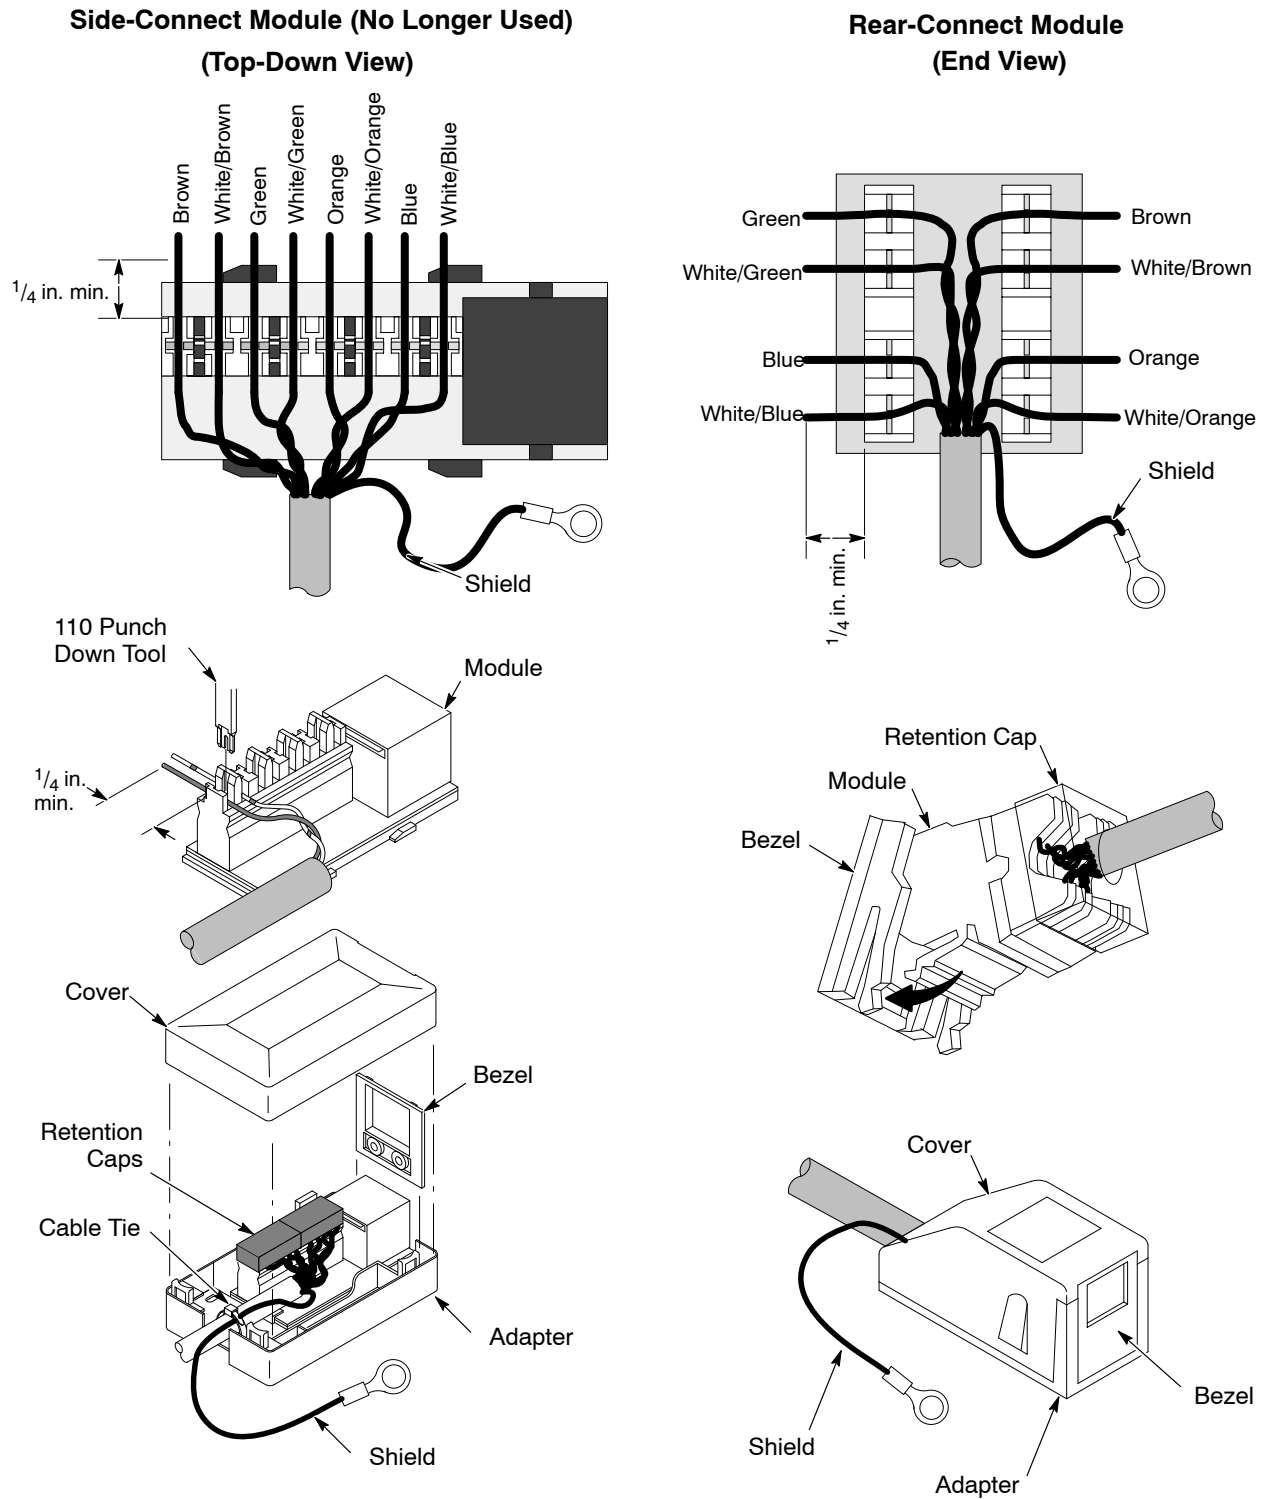

Figure 8 Ethernet Cable Connection to Termination Module
6. See Figure 8. Arrange the twisted pair wires in the module according to the T568-B wiring scheme, with the ends at least 1/4 in. through the terminals. Retain the twists in the wires as close to the terminals as possible. Use a 110 punch-down tool to attach the wires